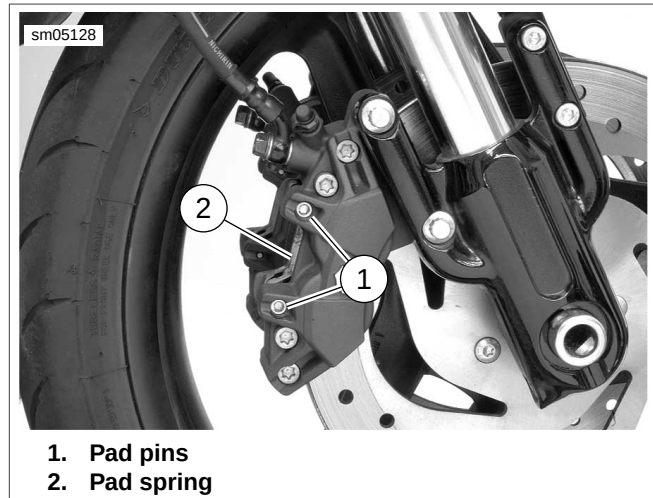

Figure 1-34. Front Caliper Assembly: XR Models
5. See Figure 1-34. Remove pad pins (1).
6. Remove pad spring (2) and brake pads through opening in caliper assembly.
1. See Figure 1-34. Install **new** outer brake pad and pad spring. Make sure friction material faces brake disc.